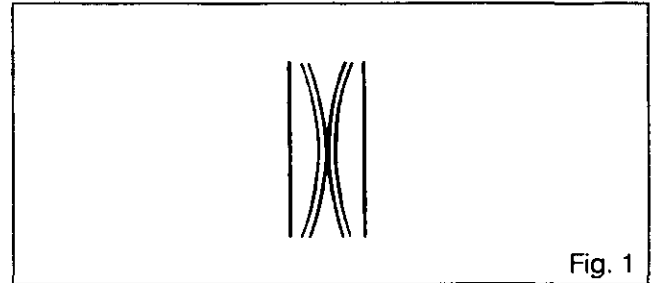
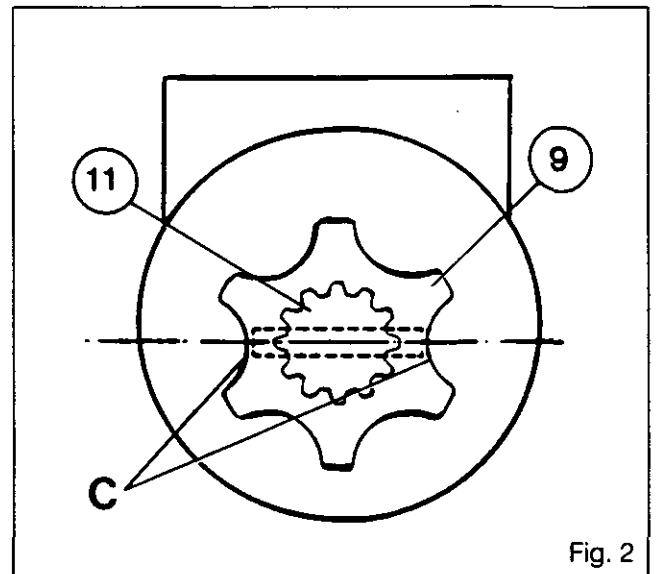
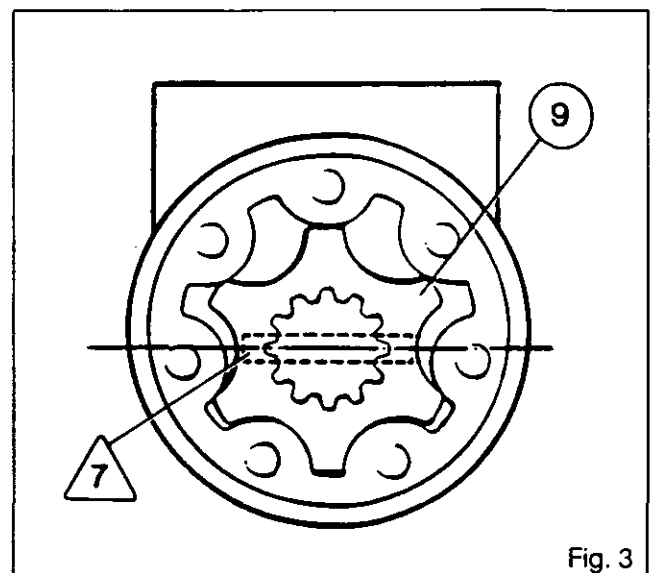

Fig. 1
Fig. 2
Fig. 3
16. Refit the check valve (26).
17. Using special tool MS62A, fit the seal /19\, the O-ring (17) and the kin-ring (15).
18. In the holes for the shock valves (20) place the balls and the springs. Screw in the threaded rings. Fit the seals and tighten the caps.
19. In the hole for the relief valve (18) place the valve and the spring. Screw in the threaded ring. Fit the seal and tighten the cap to a torque of 40-60 Nm.
20. Fit the spool valve (25) into the sleeve (27). Position the centring springs /13\ as shown in Fig. 1 and fit the pin /7\ using special tool MS63..
22. Fit the washers /12\ and (16) with the chamfer of the washer /12\ facing towards the centring springs /13\, and with the needle roller bearing (14) between them.
24. In the receptacles of the suction valves (23) place the two balls and the two pins.
25. In the receptacle of the non -return valve (22) place the ball and screw on the threaded ring.
26. Position the connecting shaft (11).
27. Fit the O-ring (28) and the distributor plate (29).
28. Fit the rotor (9) in such a way that two of the «C» shaped hollows are in the axis of the aperture of the shaft (11) (Fig. 2). Refit the spacer (10).
29. Place the O-rings (5) and (8) on the stator (6).
30. Whilst taking care not to move the rotor (9), fit the stator (6). Then move the stator so that its fastening holes coincide with those of the distributor.
**Note: The rotor (9) and the pin /7\ must be in the position shown in Fig. 3.**
31. Refit the cover plate (4).
32. Refit the screw /2\ (in the position marked upon disassembly) and the screws (1) with their seals (3). Tighten alternately to a torque of 30- 35 Nm.